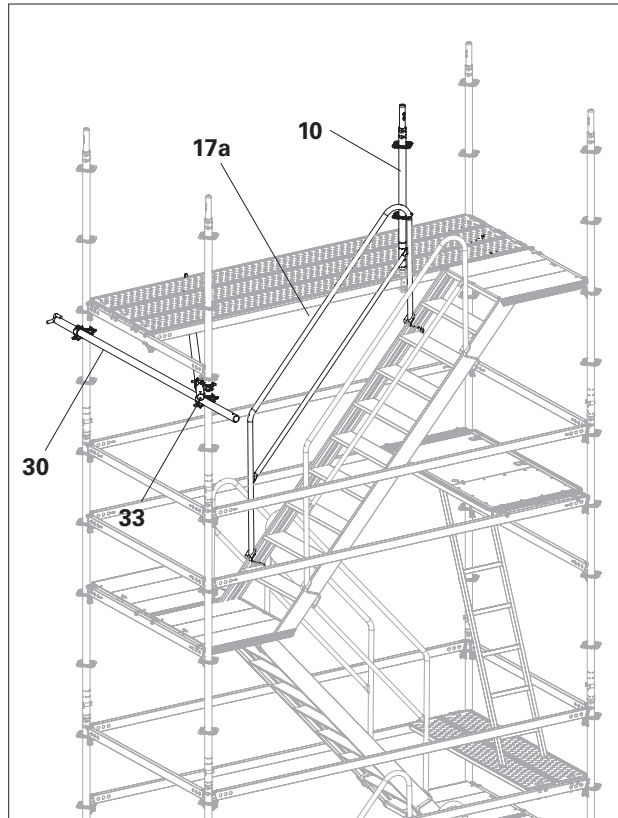

Fig. B5.03
2. Fit a Stair Guardrail UAG (**17a**) onto the inside of the stair. (Fig. B5.03)
3. Fix wall ties to the wall, e.g. with eyebolts and dowels, or equivalent connection. (Fig. B5.03)